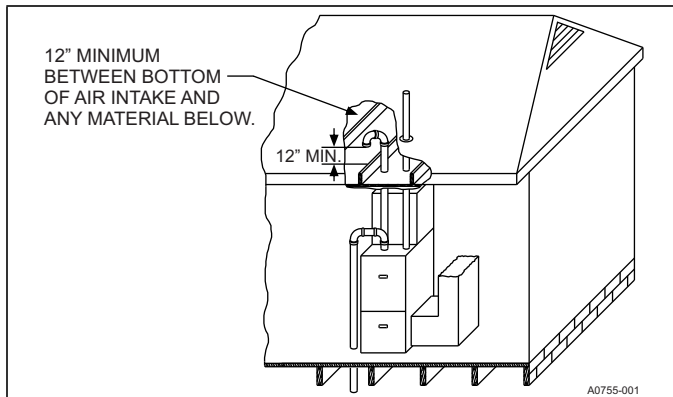

FIGURE 32: Attic and Crawl Space Combustion Air Termination
3. **VENTILATED COMBUSTION AIR:** Combustion air is supplied through a PVC or ABS pipe that is connected to the PVC coupling attached to the burner box and is terminated in a ventilated attic or crawl space. The combustion air and the vent pipes are not terminated in the same atmospheric zone. Refer to Figure 32 for attic and crawl space termination. Only the combustion air intake may terminate in the attic. The vent must terminate outside.